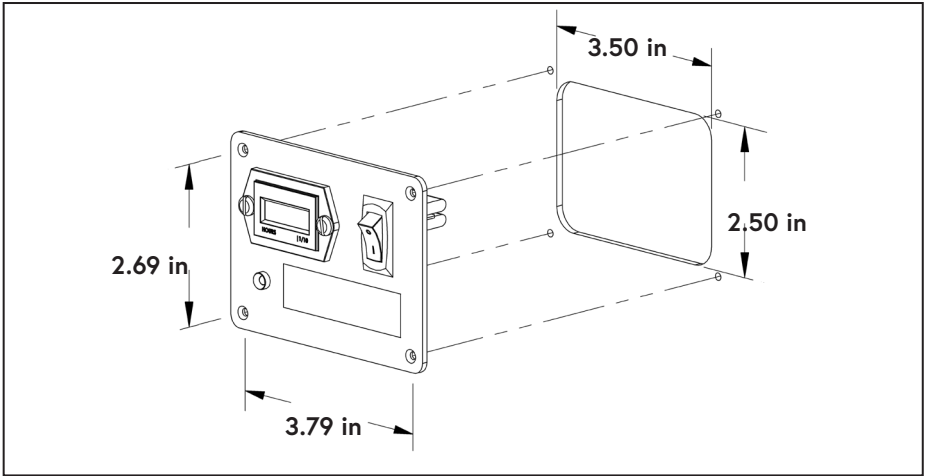

Figure 36 — Interface panel mounting dimensions
- Install the interface panel in a suitable location (Figure 36).